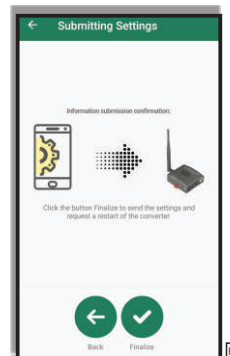

Figure 10
Step 5: Configured the following parameters (Figure 10):